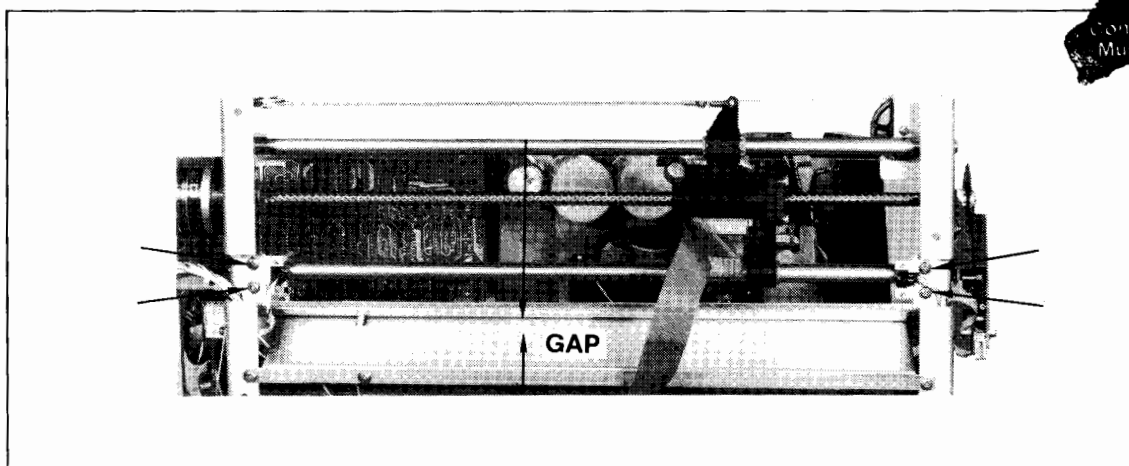

Figure 4-3. Paper Guide Adjustment
- f. Slightly loosen the four screws (see Figure 4-3) which secure the forward paper guide to the print structures.